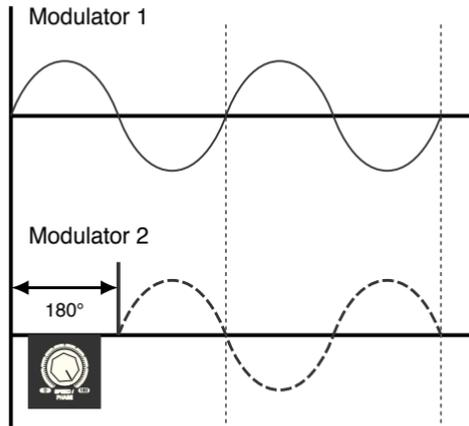

Figure 3: Phase Shift
SYNC (indicated by the numbers ❶, ❷ and ❸): The *Modulator* is synchronized to its left counterpart. It follows the clock-reference's speed. By this, multiple *Modulators* can be varied in frequency at once using the **SPEED** control ② of the *Modulator* acting as clock-reference. In sync-mode, **SPEED** ② controls the phase of the synchronized *Modulator* (see "Figure 3: Phase Shift" on page 8).